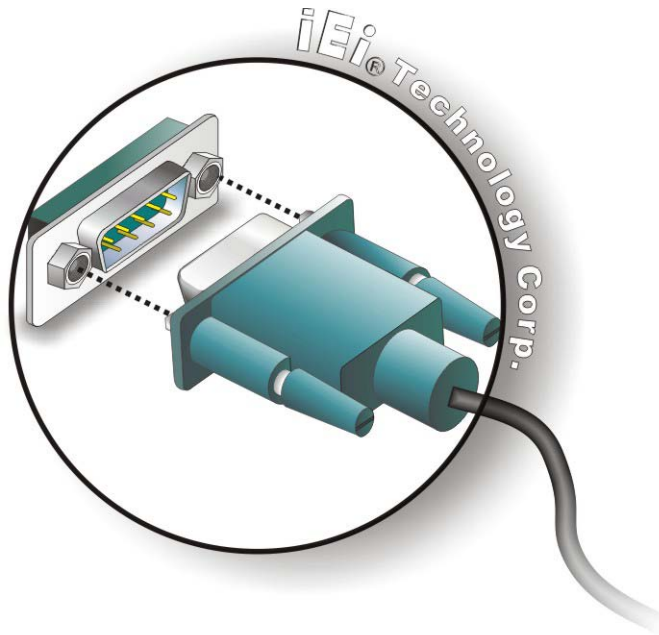

Figure 4-18: DB-9 Serial Port Connector
Step 14: Insert the serial connector. Insert the DB-9 connector of a serial device into the DB-9 connector on the bottom panel. See **Figure 4-18**.